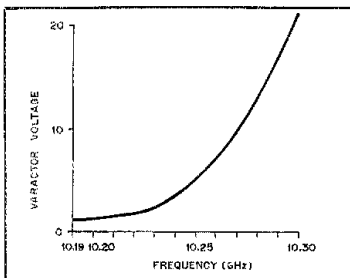

Fig. 2 — Gunnplexer frequency versus varactor-diode voltage. This graph is for a Gunnplexer that is factory tuned to 10.250 GHz at a varactor potential of 5 V.
Simple inrush current protection circuits are shown in Fig. 2. Any of these may be retrofitted into an amplifier. A variable-voltage transformer (Fig. 2A) in the primary circuit is a practical solution. Before the amplifier is turned on, the transformer is set at zero volts. Next, the amplifier is turned on and the filament voltage is brought up to normal. This simple operation need only take two to four seconds. With practice, the operation will almost become automatic.
Fig. 2 — A variable-voltage transformer is used to bring the filament voltage up to nominal value over a period of two to three seconds (A). At B, series-connected resistor R1 is shorted out by time-delay relay K1 or a hand-operated switch. In circuit C, make-before-break rotary switch S1 is used to turn on the filament transformer. Switch position 2 introduces the current-limiting resistor.
Now that the preliminaries are out of the way, things get a bit more complex. As I said before, the varactor requires from 1 to 20-V dc. Before the Gunnplexer is shipped from the factory, a frequency is stamped on the body. This is the transmit frequency at a varactor voltage of 5 V. A change in this voltage produces a nonlinear change in frequency. The shift is much greater at low varactor voltages than it is at high voltages (Fig. 2). The output power also fluctuates with changes in frequency. I have measured a maximum variation of 0.6 dB. This variation should not cause a great deal of concern.
T4, L7, C2 and C3 of Fig. 2 (preamplifier module) need to be changed to new values. No additional modifications are necessary for this subassembly.